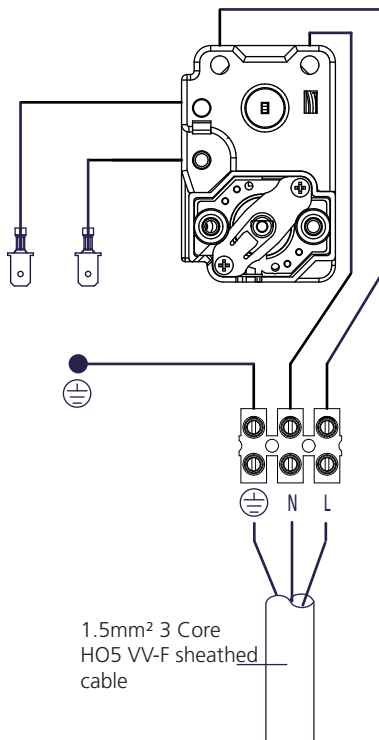

Figure 7 - Direct Electrical controls schematic
5.2 ELECTRICAL SUPPLY (Figure 7 & 8, page 12)
6.2 ELECTRICAL SUPPLY (Figures 7 & 8)